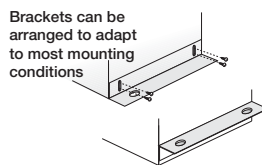

Figure 10 — Attaching Brackets
2. Attach adjustable mounting brackets to fan, but leave the screws loose until proper height is determined, shown in Figure 10.